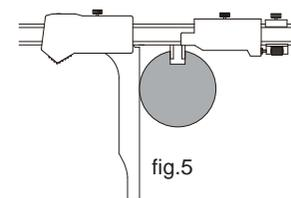

fig.5
---Flip the caliper 180°, extend the keyway measuring jaw into the slot to be measured, adjust the fine adjustment device to make the keyway measuring jaw contact the slot, tighten the keyway locking screw, move the caliper jaw to make contact with the workpiece to be measured (fig 5), and record the symmetry displayed value 'b' at this time. Calculate the difference between the two readings 'Δ'.